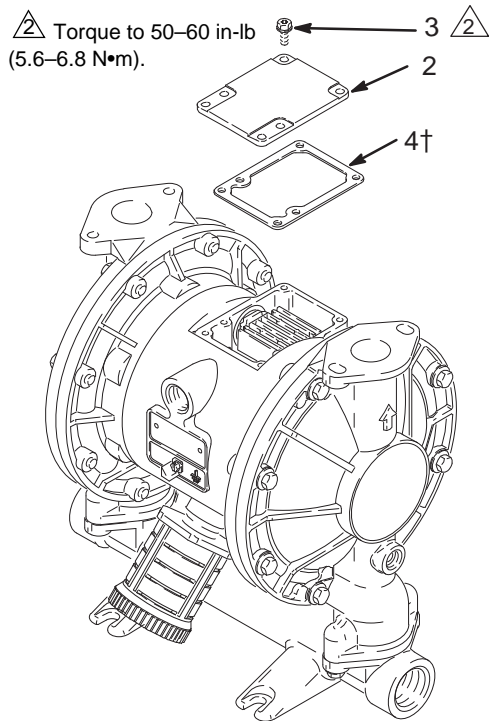

Fig. 8
2. With a Torx (T20) screwdriver or 7 mm (9/32") socket wrench, remove the six screws (3), air valve cover (2), and gasket (4). See Fig. 8.
10. Align the valve gasket (4†) and cover (2) with the six holes in the center housing (1). Secure with six screws (3), using a Torx (T20) screwdriver or 7 mm (9/32") socket wrench. Torque to 50–60 in-lb (5.6–6.8 N•m). See Fig. 8.